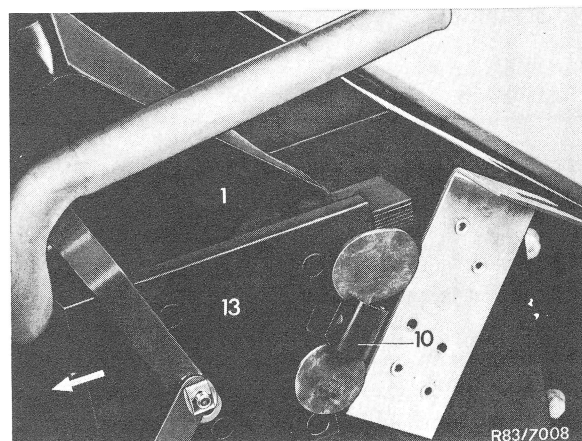
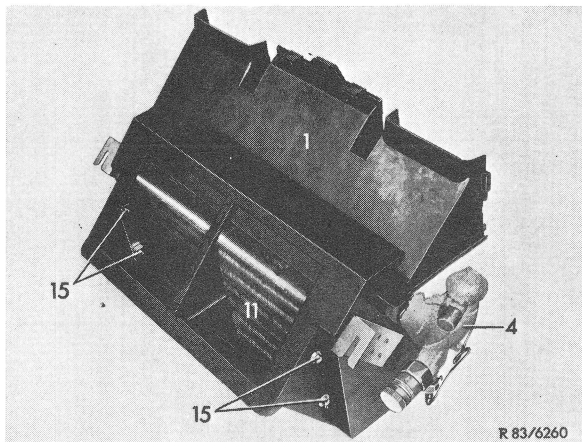
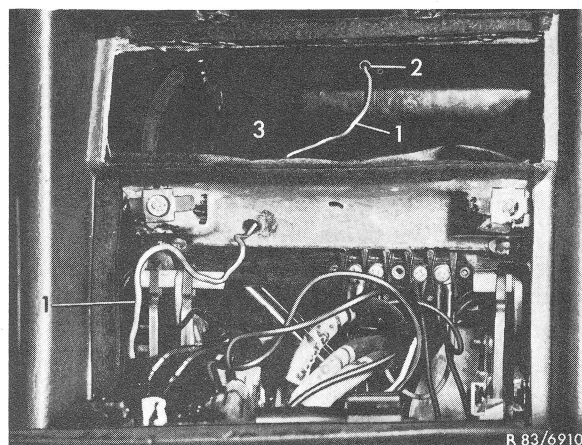

Figure 1 Evaporator box
Figure 3
Figure 5
- 8 Remove tensioning springs (10) with lock washer pliers. Then pull off both sliding pieces (13) at left and right on evaporator box in direction of arrow (Fig. 1 and 2).
- 9 Remove flap section (14).
- Note:** For sealing, the flap section (14) has been glued at first with union cement laterally and at bottom of evaporator box, while a teroson cord has been used later on. Carefully separate glued surfaces with a knife.
- 10 Unscrew four hex. screws (15) and remove evaporator (11) (Fig. 3).
**11** Mount expansion valve (4) to evaporator (83.1—530).
**12** Screw-on evaporator (11) in evaporator box by means of hex. screws (15) (Fig. 3).
**14** Mount flap section (14) and attach with slide pieces (13) (Fig. 1).
**15** Mount tensioning springs (10) at left and right on evaporator box at left between evaporator pipes.
**16** Insert a welding wire of 3 mm dia. into guide pipe (12) for capillary. Then introduce guide pipe (12) carefully into evaporator through bore in flap section. Bend capillary guide tube slightly if required, but avoid using force.
**18** Install heater box, making sure that the capillary (1) of the temperature vacuum switch is correctly installed and completely inserted into guide pipe (12) up to yellow mark (275 mm). (83.1—100 and Fig. 5).